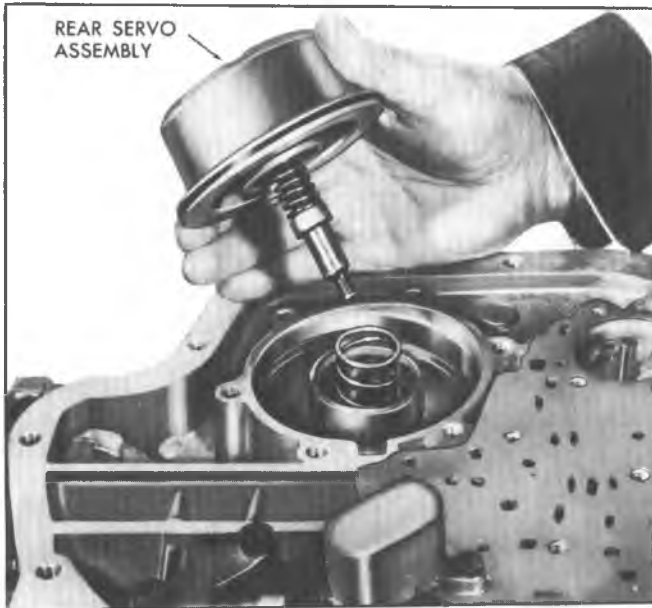

Fig. 1B-Removing Rear Servo Assembly
2. Remove rear servo assembly from case (fig. 1B).